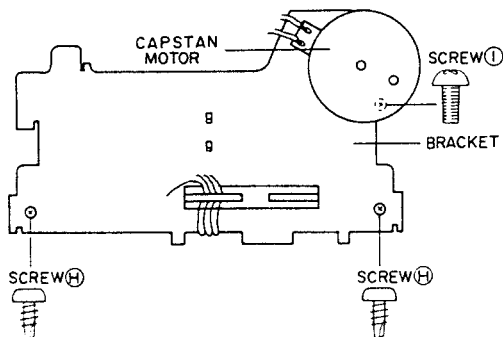

Fig. 3-8
- 2) Remove the bracket retaining screw ㉕ and then remove the bracket. (Refer to Fig.3-8).